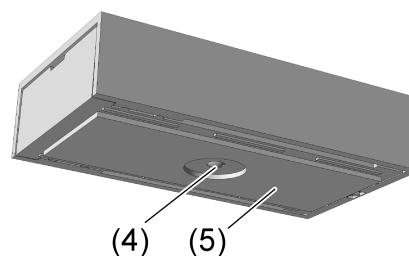

Figure 5: Underside of housing with adhesive pads
- Apply adhesive pad (5) to underside of housing (Figure 5). Remove the protective film on one side, place it on the underside of the sensor housing and press it down firmly. The light guide (4) for brightness measurement must not be pasted over.